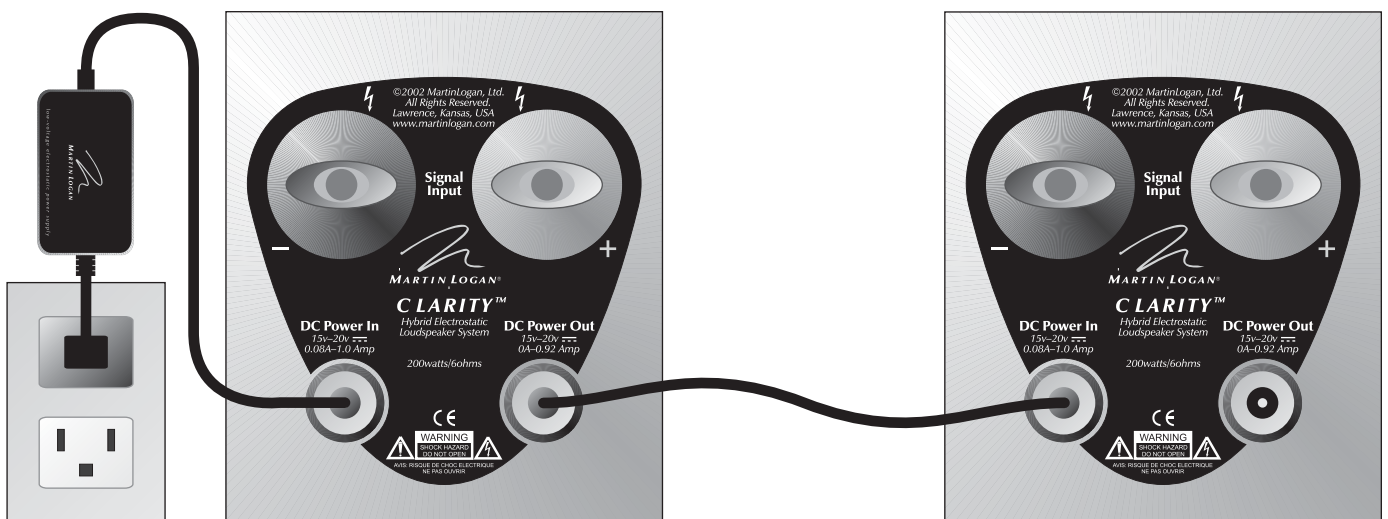

Figure 3. Connecting power to multiple speakers using one power supply.
To use this connection option choose a primary speaker (whichever speaker is most convenient) and connect it as instructed in the 'Low-Voltage (DC) Power Connection' section on the previous page. To attach additional speakers, run a low-voltage interconnect cable from the 'DC Power Out' to the next speakers 'DC Power In' (see figure 3).